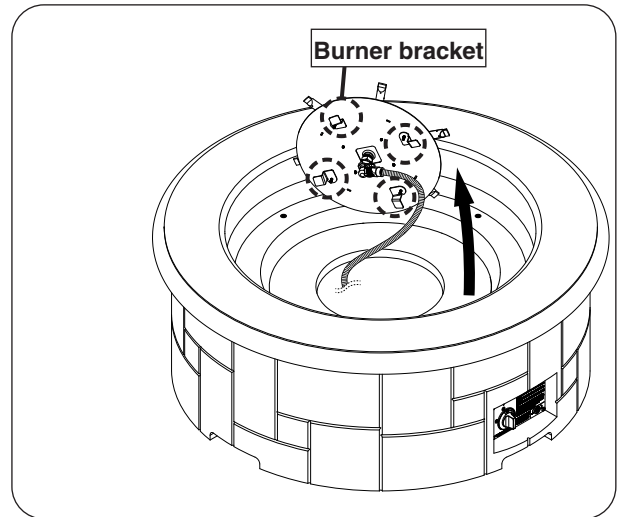

Fig. 32-2 Remove burner assembly
2. Use a $\frac{5}{16}$ " nut driver to partially unfasten the four screws found on the burner assembly. Then carefully remove the burner and set it off to the side. See Fig. 32-2.